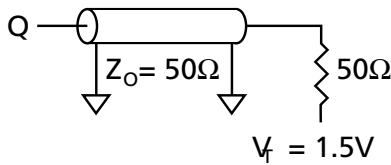
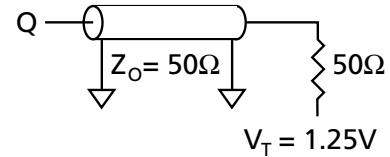

Figure 1
Figure 3
1. Test conditions as specified with the output loading shown in Figure 1 for 3.3V I/O (V_{DDQ} = +3.3V +0.3V/-0.165V) and Figure 3 for 2.5V I/O (V_{DDQ} = +2.5V +0.4V/-0.125V).
Output load	See Figures 1 and 2
Output load	See Figures 3 and 4